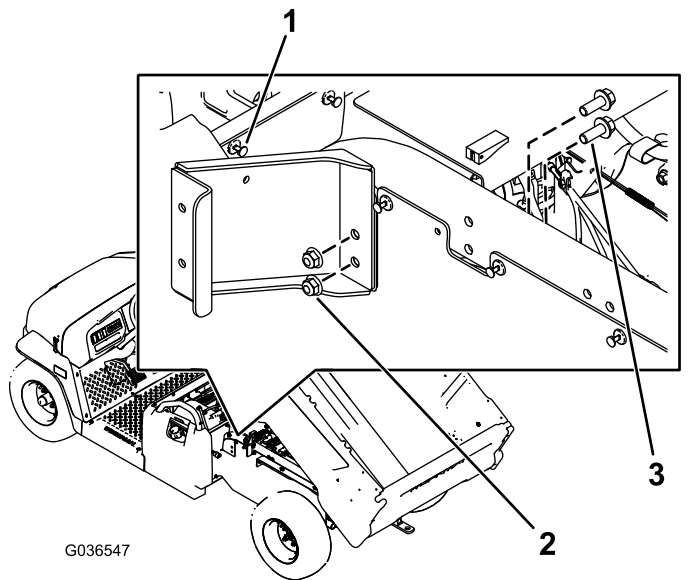

Figure 1
- A. Remove the rivet from left panel behind the rear seat base (Figure 1).
- B. Install the left loop bracket using 2 hex-flange bolts ($\frac{3}{8}$ x 1 inch) and 2 nuts ($\frac{3}{8}$ inch) as shown in Figure 1.